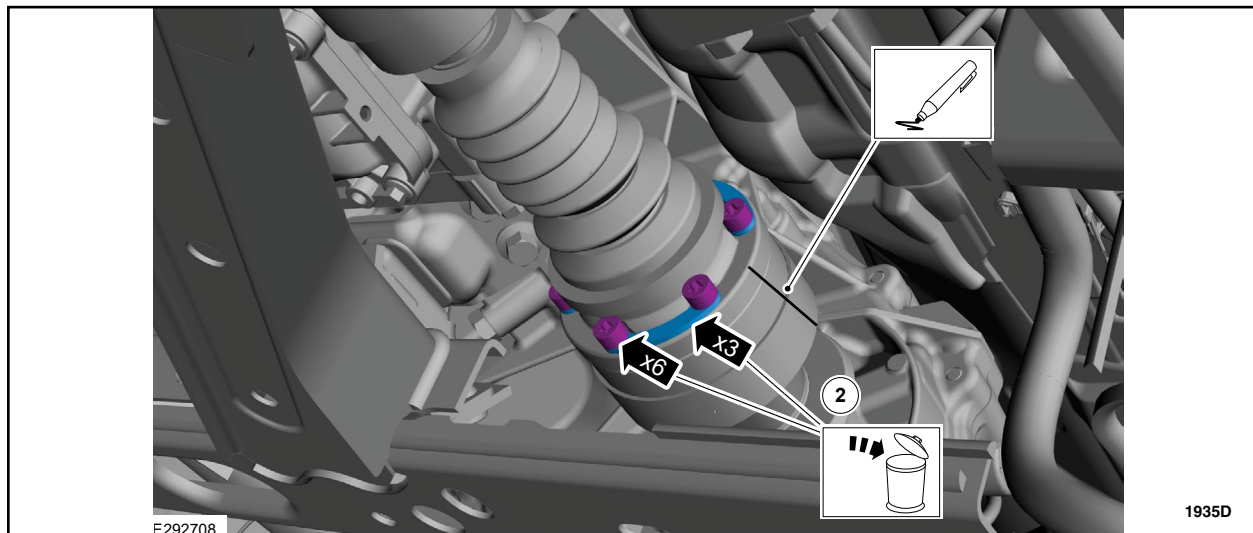

FIGURE 1
2. Vehicles equipped with a front driveshaft must have the driveshaft positioned aside to access the shifter cable bracket bolts. See Figure 1.